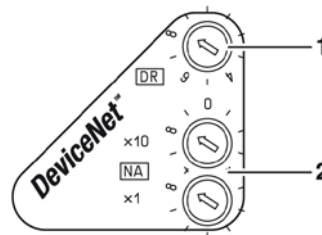

Fig. 7-1: Baud-rate switch and address switch "x10" and "x1"
The following baud rates can be set (Fig. 7-1, item 1):